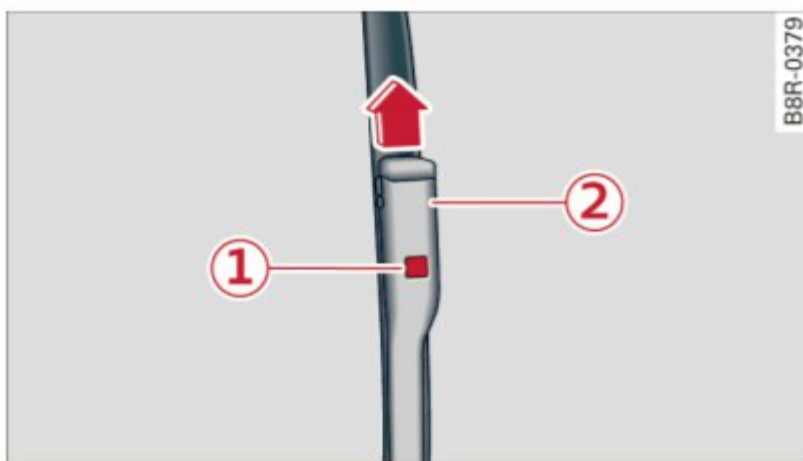

Fig. 46 Removing windshield wiper blade
- ▶ Press the locking knob ① ⇒ fig. 46 on the wiper blade. Hold the wiper blade firmly.